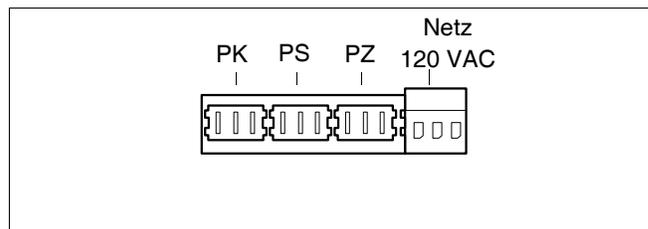

Fig. 32 120 VAC Connections
- Connect the external heating or system pump (for situations where the pump of the Buderus pump group is not used) to the green PK terminal (fig. 32). The maximum allowed connected load of the pump = 250 Watts.
- Connect the DHW pump to the grey PS terminal (fig. 32). The maximum allowed connected load of the pump = 250 Watts.
- Connect the DHW circulation pump to the lilac PZ terminal (fig. 32). The maximum allowed connected load of the pump = 250 Watts.